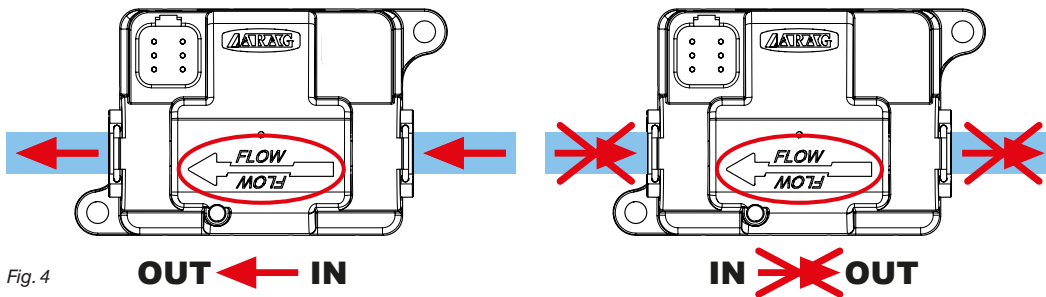

Fig. 4
- Observe the correct inlet-outlet direction of the liquid, as indicated by the arrow printed on the flowmeter faceplate (Fig. 4).